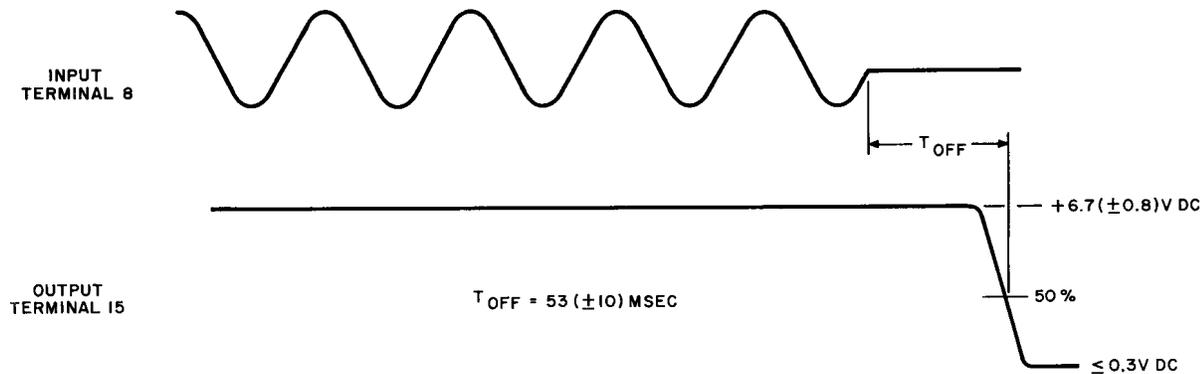

Fig. 24A—Automatic Gain Control 1 Test
(5) Set the scope EXT SYNC TRIGGER selector to the (−) negative position. The input and output waveforms shall be as specified in Fig. 24A.